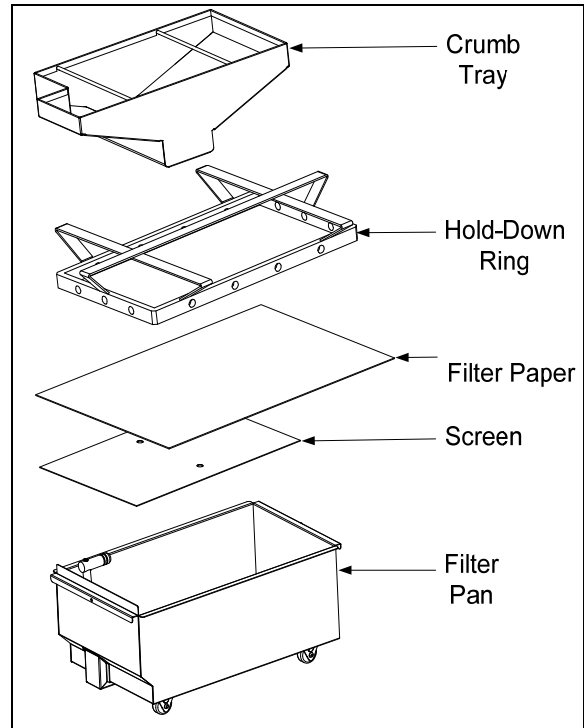

Figure 8
1. Pull the filter pan out from the cabinet and remove the crumb tray, hold-down ring, filter paper and filter screen (see Figure 8). Clean all components with a solution of detergent and hot water then dry thoroughly.